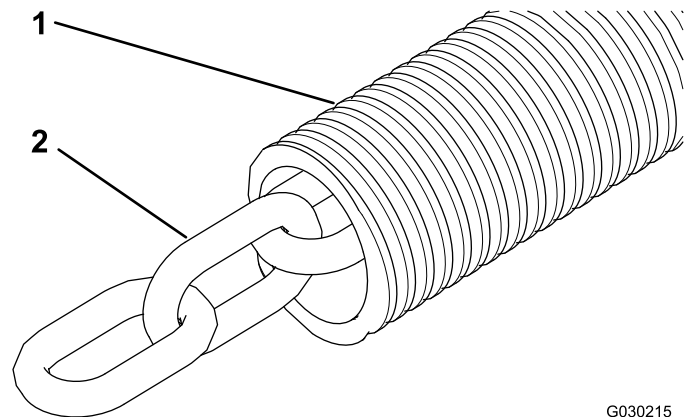

Figure 4
1. Slide the chain sleeves over the chains (Figure 4).